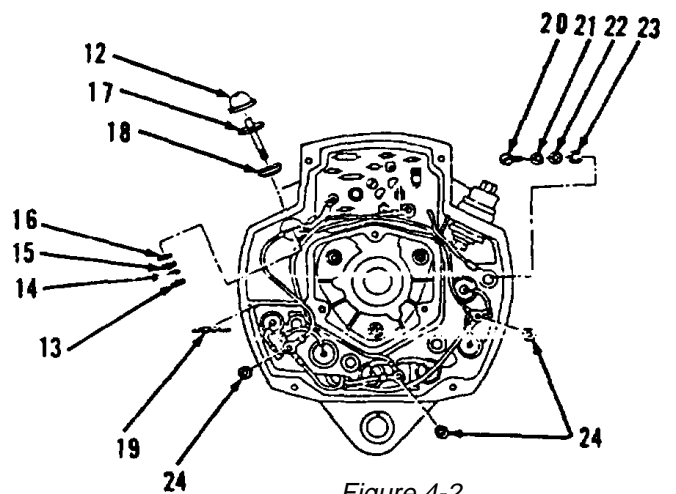

Figure 4-2.
3. Remove four screws (3), lockwashers (4) and plate (5).
4. Remove three screws (6), lockwashers (7), four screws (8), lockwashers (9), cover (10) and gasket (11). Discard gasket (11). Remove all gasket material from mounting surfaces.
5. Remove cap (12), nut (13), washer (14), nut (15), insulator (16), stud (17) and bushing (18, Figure 4-2).
6. Remove grommet (19).
7. Remove screw (20), washers (21 and 22) and insulator (23).
8. Remove three nuts (24).